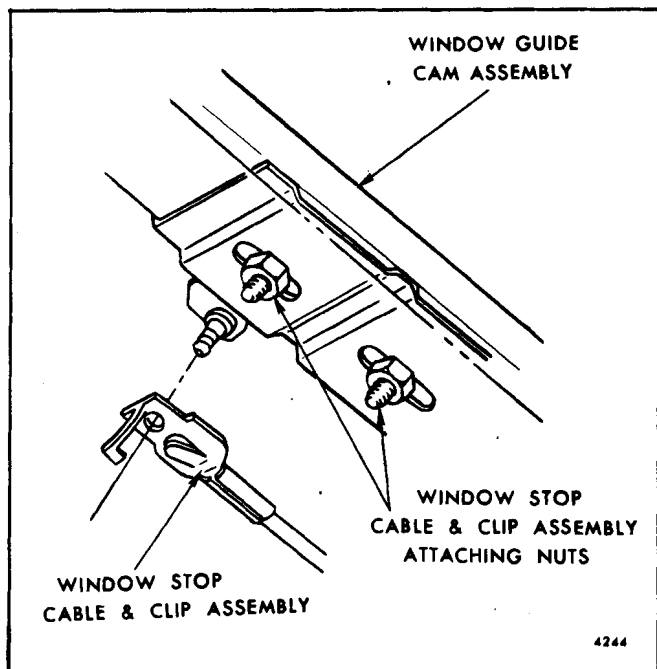

Fig. 9-13-Window Stop Cable and Clip Assembly Attachment
NOTE: On styles equipped with manual tail gate, disengage upper end of tail gate window stop cable and clip assembly (Fig. 9-13).
2. Disengage upper end of tail gate window stop cable and clip assembly (Fig. 9-13).